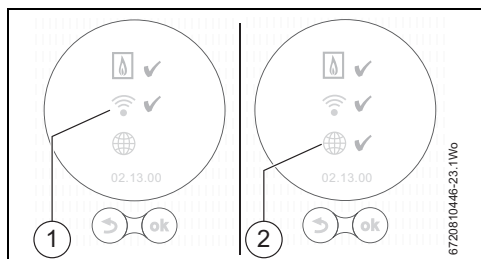

Fig. 11 Connecting to the Wi-Fi network and internet
- Firstly, connection with the Wi-Fi-network [1] is made, confirmed with a check mark (→ fig. 11).